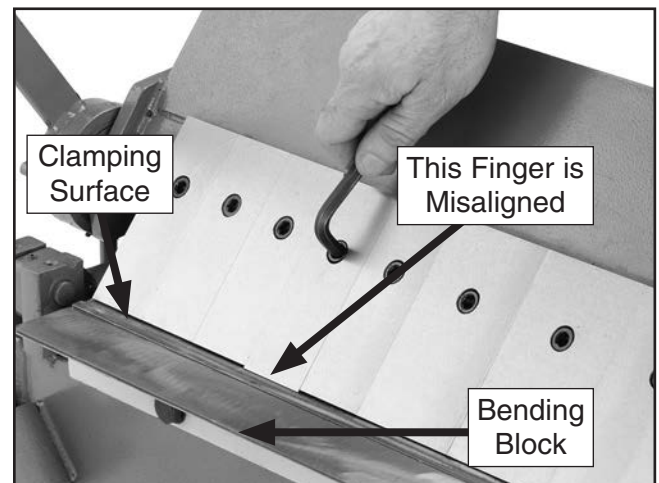

Figure 11. Example of a misaligned clamping finger.
1. Lower clamping leaf until clamping fingers just touch clamping surface (see **Figure 11**).
2. Look closely along bottom edge of each finger to determine if any are out of alignment with clamping surface and bending block, as shown in **Figure 11**.